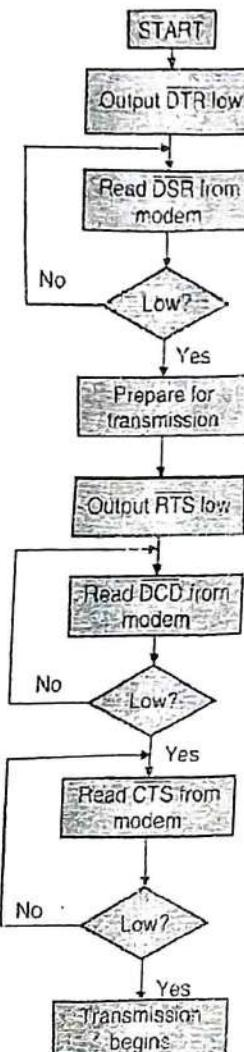

Fig. 9.2.2 : Flowchart for sequence of events in RS 232 protocol
- The DTE has to follow a particular sequence of steps before beginning with the serial transmission on TxD/RxD pins. These steps are shown in a flowchart form in Fig. 9.2.2.